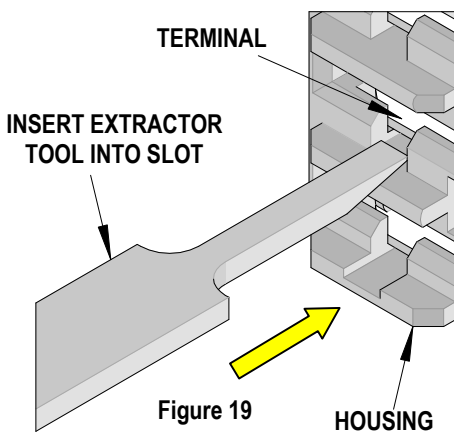

Figure 19
7. Insert the Extractor Tool into the slot below the terminal, seated in the connector housing and slide it forward until it stops. See Figure 19.